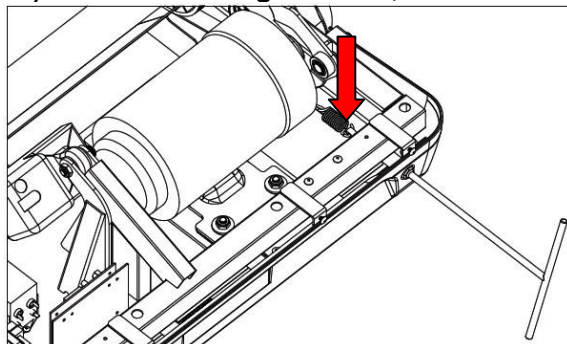

Figure 4.3.3
12) As shown in Figure 4.3.3, use tool to release the belt (T-sleeve) and remove the belt from the motor.